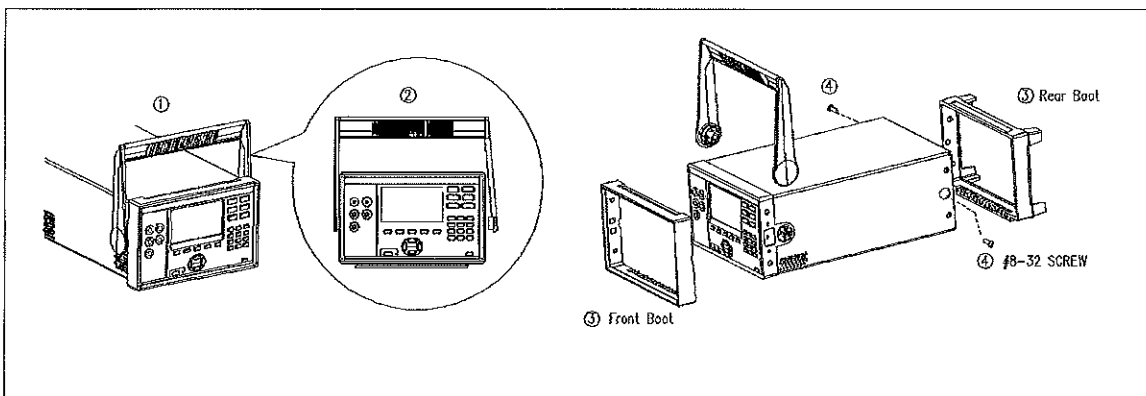

Figure 1
1. With the Meter flat on the desk, rotate the Meter handle to the vertical position over the top of the Meter as shown in Figure 1.
2. Remove the handle by pulling one side of the handle outward, away from the Meter until free, as shown in Figure 1. Then pull the other side of the handle out, away from the Meter .
4. Remove the side screw(2) from the Meter .